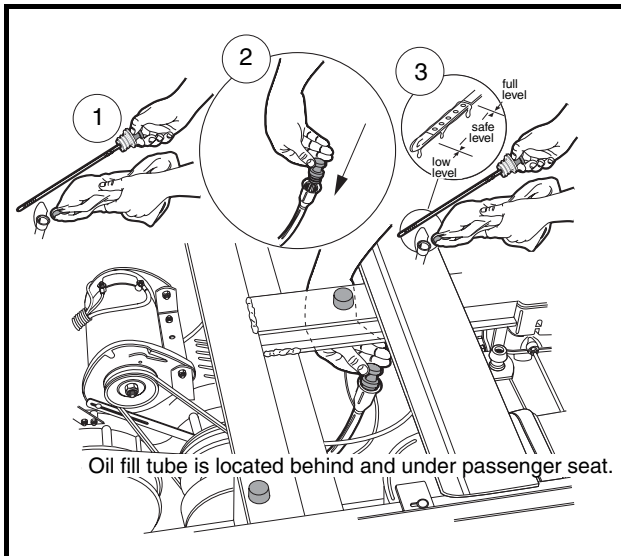

Figure 17 Engine Oil Level Check – HUV4213
1. Remove the oil level dipstick from the oil filler tube and wipe oil from stick. **See Figure 17. See following CAUTION.**